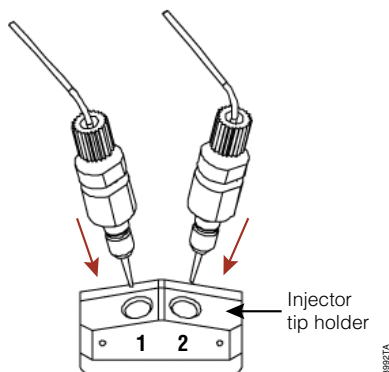

Figure 29. Insert the injector tips into the injector tip holder. Snap into place.
6. Insert the injector tip(s) into the injector tip holder and snap into place (Figure 29).